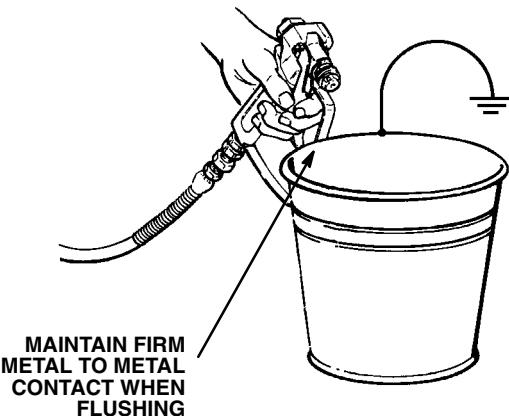

Fig 15-2
7. Hold a metal part of the gun firmly against and aimed into a metal waste container. *Refer to Fig 15-2.* Squeeze the trigger and hold it open, turn the ON/OFF switch to ON, and slowly increase the pressure setting until the sprayer starts. Keep the gun triggered until all air is forced out of the system and the solvent flows freely from the gun. Release the trigger and engage the gun safety latch. This procedure helps reduce the risk of static sparking and splashing.